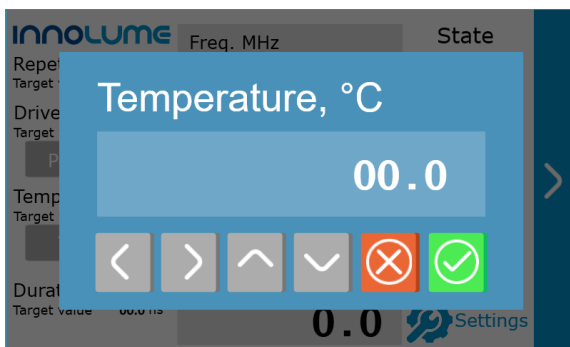

Figure 31 – Temperature setting
9. Tap on temperature value to set the laser diode temperature (fig. 31). Use the left and right arrows to select the digit to change, use the up and down arrows to change the value. Press button to save the changes and exit menu. Press button to exit menu without changes.